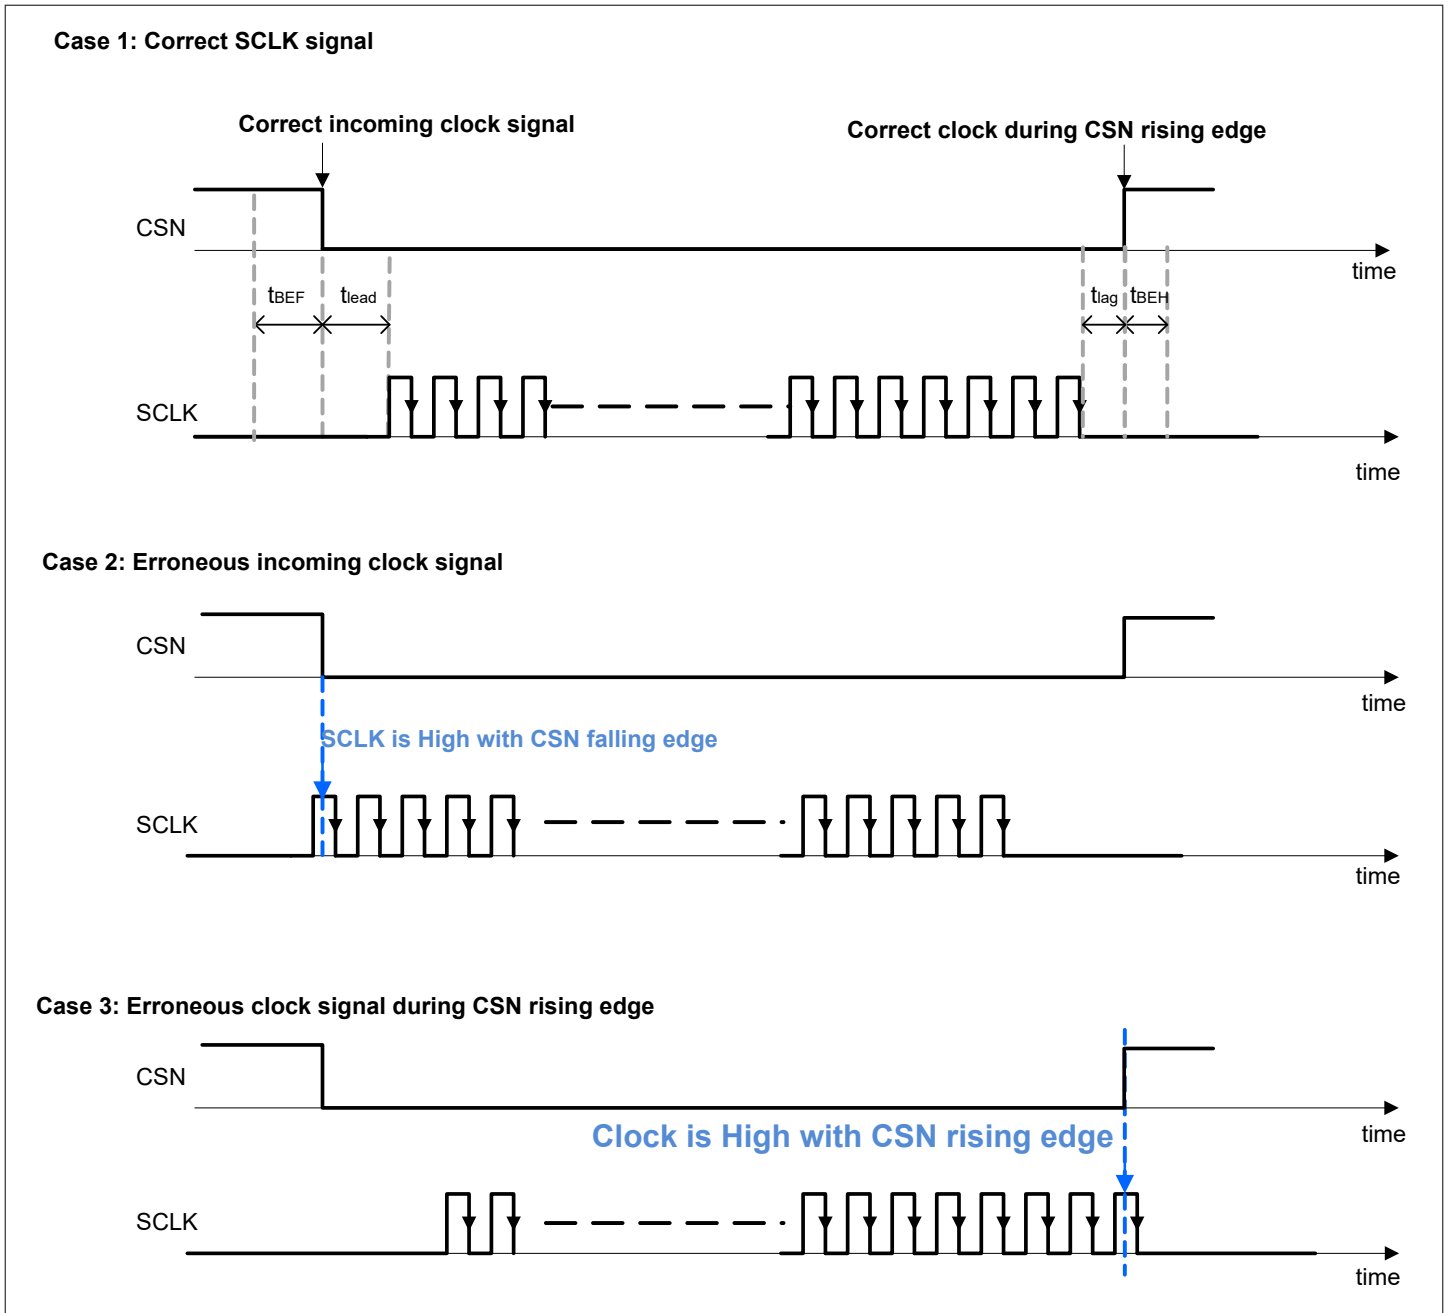

Figure 45 Clock polarity error
- A clock polarity error is detected (see Figure 45 Case 2 and Case 3): the incoming clock signal was High during CSN rising or falling edges (protocol error).